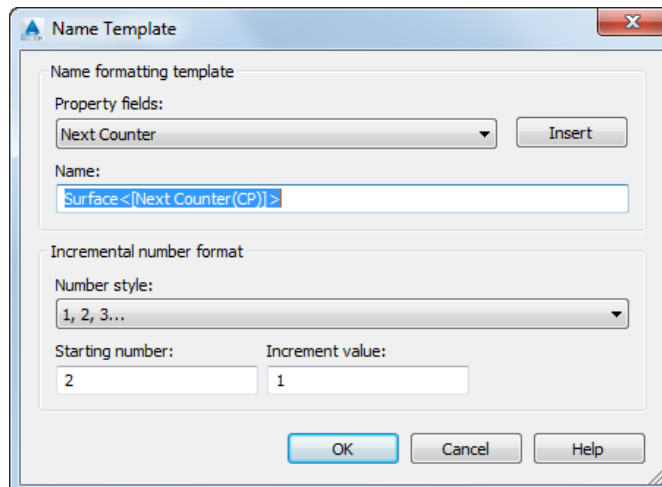

Figure 3-55 The Name Template dialog box
2. Click in the **Value** field of the **Name** property and choose the browse button displayed on the right; the **Name Template** dialog box is displayed, as shown in Figure 3-55.